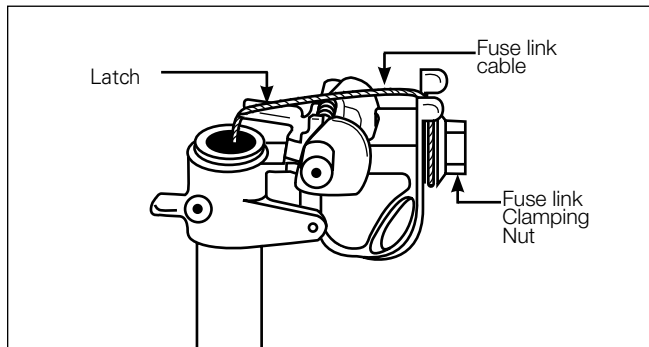

Figure 3. Installation of a fuse link into the fuse link holder
4. **Holding the lower end of the fuse link holder, depress the latch, feed the cable over the latch and around the fuse link clamping nut in a clockwise direction to prevent strand breakage when the clamping nut is tightened.** See Figure 3.